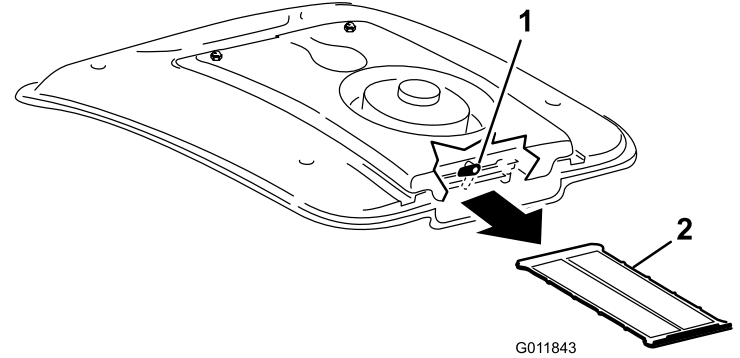

Figure 92
2. On the rear of the fan mount, rotate the latch to the side (Figure 92).
3. Slide the A/C screen out from under the air conditioning coil (Figure 92).
4. Clean the screen thoroughly with compressed air (Figure 92).